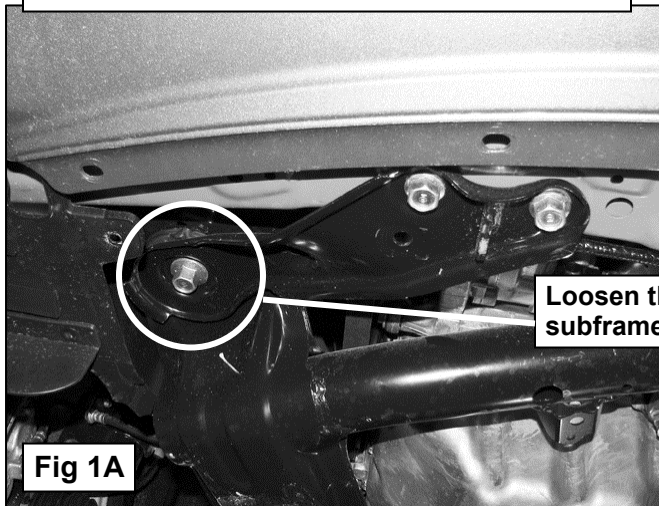

Fig 1A
- Starting at the driver side, remove the (2) factory hex bolts securing the frame support to the crossmember, **(Figure 1A & 1B)**. **NOTE:** Only install one Frame Mounting Bracket at a time and only remove the (2) factory hex bolts required to install the Frame Mounting Bracket. To provide extra clearance under the frame support, loosen the factory hex bolt in the subframe mount 1-2 full turns but **do not remove it** from the mount, **(Figures 1A & 1B)**. Select the driver side Frame Mounting Bracket and insert it under the frame support. Line up the two mounting holes in the Frame Mounting Bracket with the frame support and reinstall the factory mounting bolts, **(Figure 2)**. **IMPORTANT:** In some cases, due to very tight tolerances on the factory frame support, it may be necessary to carefully file the holes in the factory frame support for a little added clearance **only** if you find it difficult to get the factory hex bolt to thread into the crossmember. **DO NOT DAMAGE THE FINE THREADS ON THE FACTORY HEX BOLTS OR THE CROSSMEMBER!** Snug but do not tighten hardware at this time.